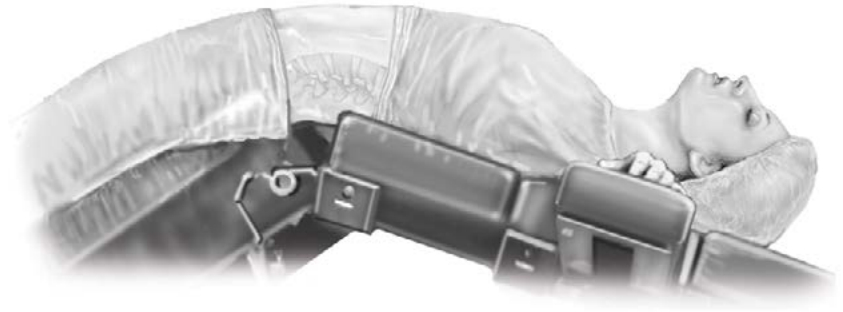

Fig. 1a
**NOTE:** At times you may want to break the table in order to gain better access to the level, particularly in treating L5/S1 (**Fig. 1a**).